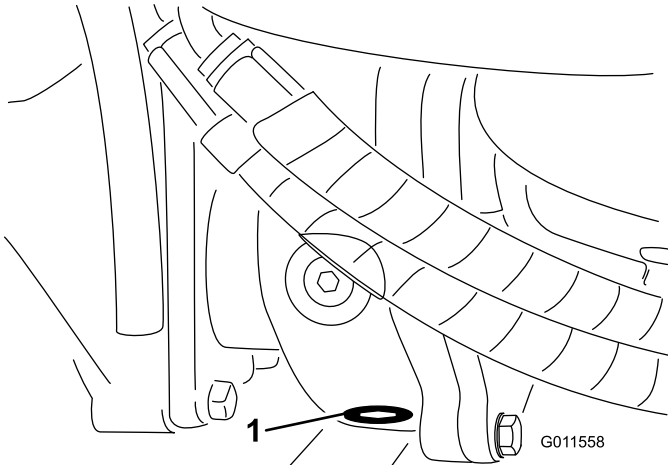

Figure 63
- Clean the area around the drain plug at the bottom of the gearbox (Figure 63).